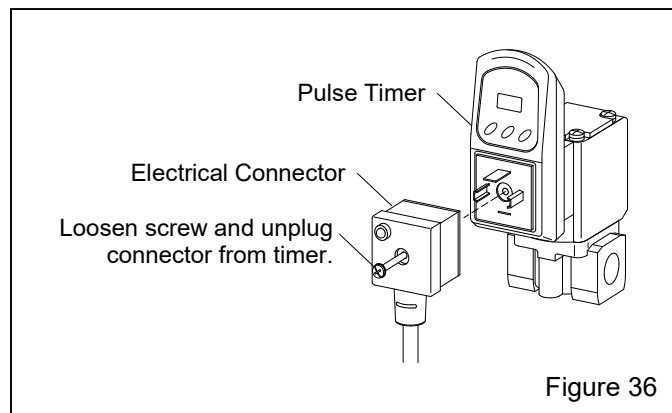

Figure 36
7.9.1 Loosen the connector screw and unplug the electrical connector from the timer, as shown in Figure 36.